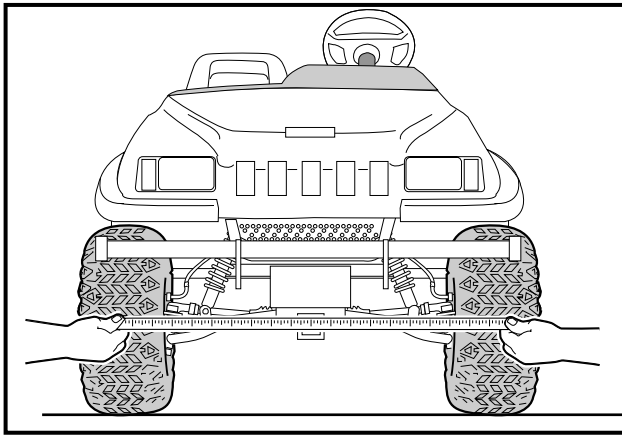

Figure 7-25 Measure Toe-in
4. Measure the distance between the marks on the forward-facing surfaces of the tires (**Figure 7-25, Page 7-15**).